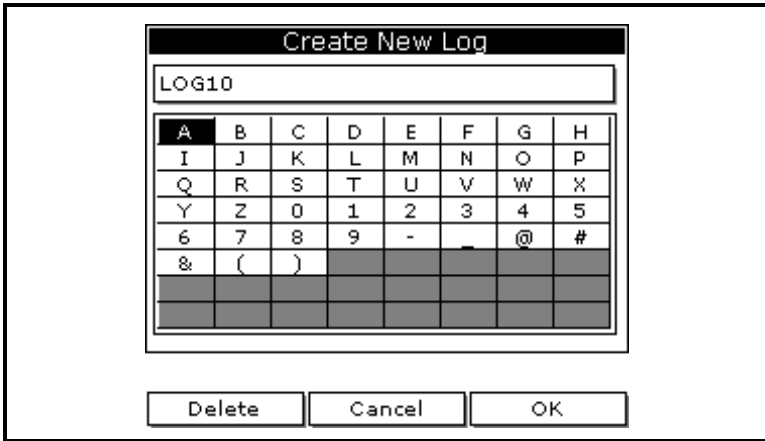

Figure 6-2: Name Entry Window for a New Log
4. Use the arrow key to scroll to **Clone Selected Log** and press [ENTER]. The screen appears similar to Figure 6-2 on the next page.